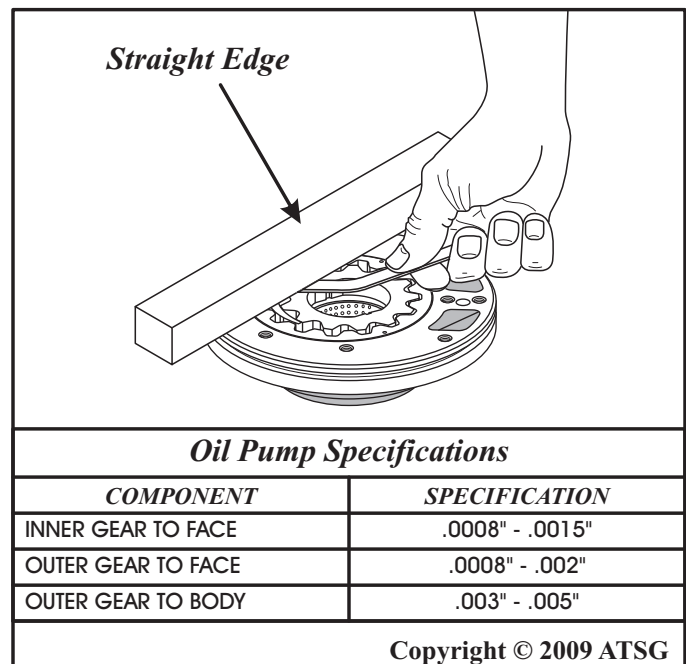

Figure 88
10. Measure the oil pump gear clearances using a feeler gauge and a straight edge, as shown in Figure 88.
**Note:** Oil pump clearance specifications are also shown in Figure 88.